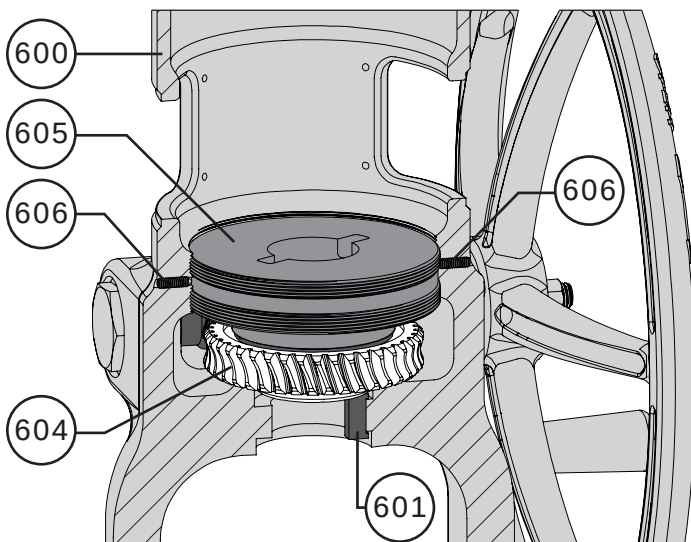

Figure 82 Retainer Flange Removal - Part 1
- 18** Loosen the two retainer flange set screws (Key 606) until the bearing retainer flange (Key 605) can be unscrewed and removed. Refer to Figures 82 & 83).